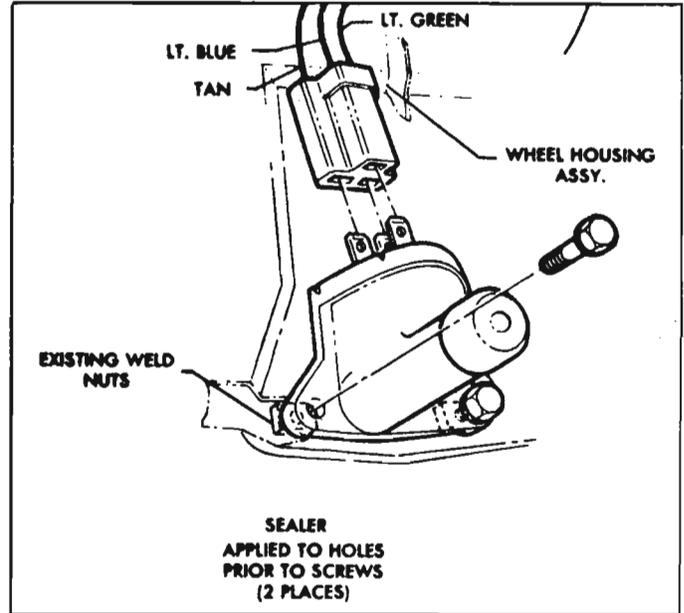

Fig. 8-108—Dimmer Switch Installation
2. Remove the connector from the switch (fig. 8-108).